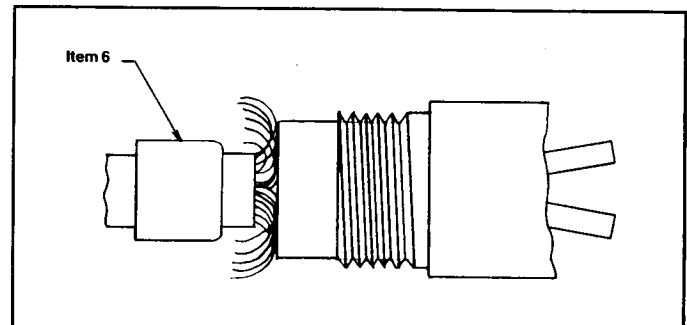

Figure 6
9. Remove tape and allow copperweld braid and cable fillers to extend over edge of main body. (Figure 6)